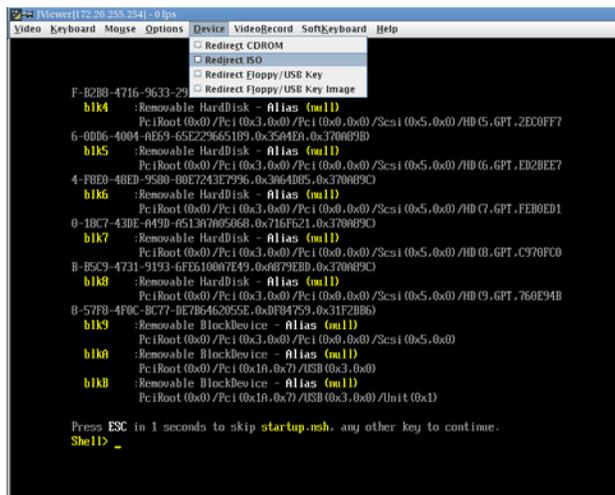
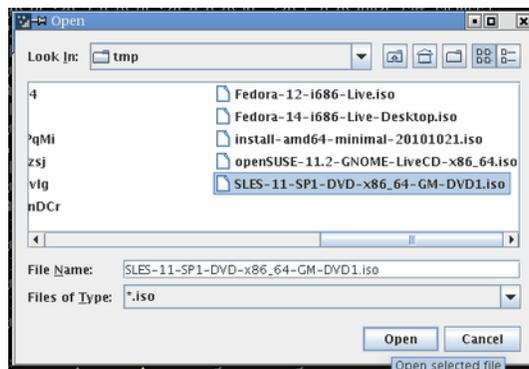
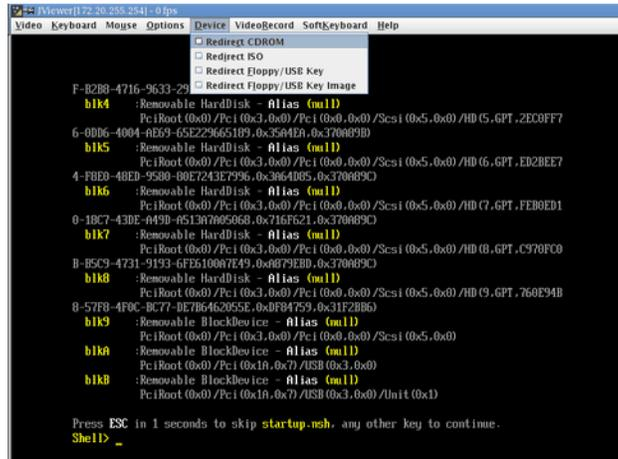

Figure 3-14 Redirect ISO Pull Down Menu
Figure 3-15 ISO Image File Name Screen
Figure 3-16 Redirect CRROM Pull Down Menu
- To specify an ISO image file to redirect to the SGI UV operating system ISO image, select **Device-> Redirect ISO** on the JViewer client, as shown in Figure 3-14 on page 56. Then select the ISO image file to use, as shown in Figure 3-15 on page 56. If you are using physical media, to redirect a CD-ROM or DVD, place the CD in the drive of the machine where JViewer is running, then select **Device-> Redirect CDROM** on the JViewer client, as shown in Figure 3-16 on page 57.